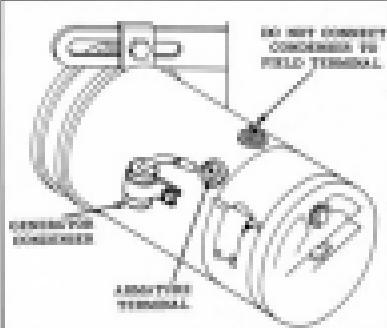

Fig. 634. Generator Condenser Installation.
1. Position template as shown in Fig. 634 and drill 19/32" diameter hole for antenna mast.
5. Install spacers, gaskets and mounting nuts in sequence shown in Fig. 634.
7. Route lead-in over top of kick pad and over hand brake lever bracket as shown in illustration, Fig. 634.